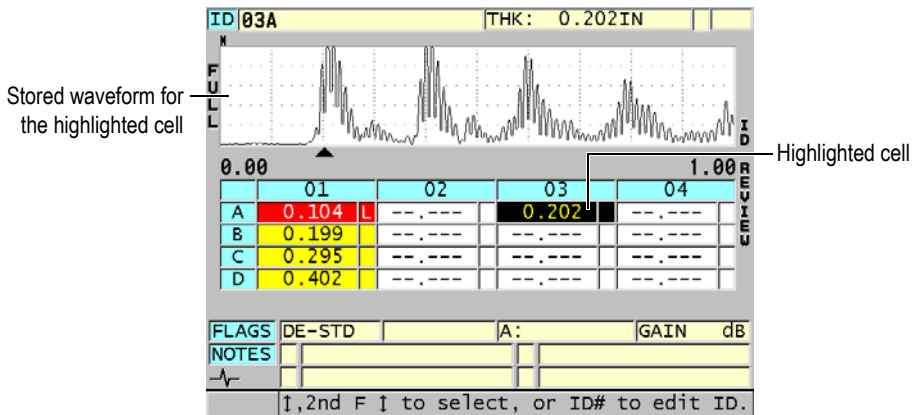

Figure 10-13 The highlighted DB grid cell in the ID review screen
3. In the ID review screen (see Figure 10-13 on page 151):